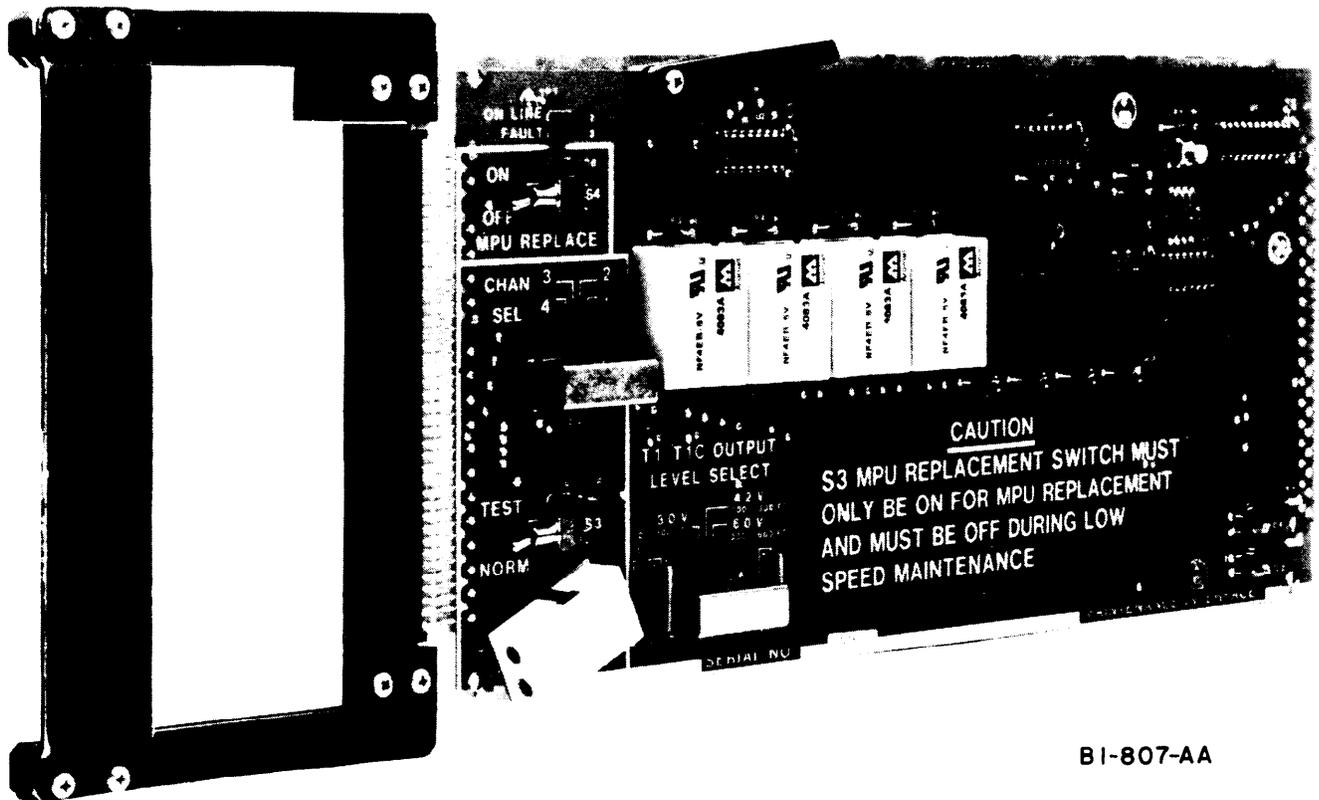

Figure 1-5. Maintenance Interface Card
4.15 The Maintenance Interface card (see Figure 1-5) provides for off-line testing of spare T1 or T1C Low-Speed Interface cards before placing them in service. Test data is inserted into the spare cards through test jacks built into the Maintenance Interface card. The card provides for either T2 loopback of the test data or bridging to on-line traffic in the RX direction. The Maintenance Interface card is also used to disable the MPU data bus during MPU replacement procedures. Through use of the Maintenance Interface card, changeout of T1, T1C, and Control MPU cards is possible without disrupting traffic.